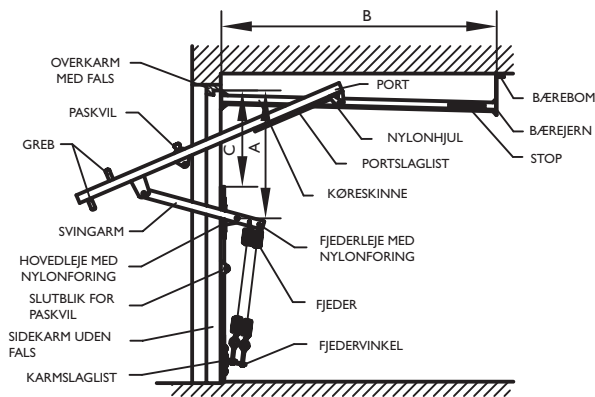
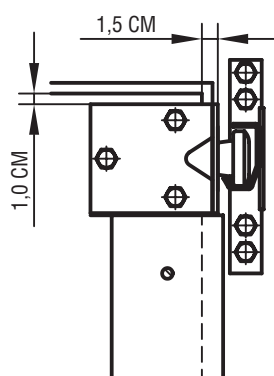

FIG. 1
FIG. 4
1. VINKLERNE MED NYLONHJUL MONTERES PÅ PORTEN. SE FIG. 4.
3. KARMLISTERNE FASTGØRES PÅ KARMENS INDVENDIGE SIDE. SE FIG. 1 - 2 & SKEMA.
4. HOVEDLEJET MONTERES PÅ KARM OG PORTVINKLEN MONTERES PÅ PORTEN. SE FIG. 1 - 2 & SKEMA. NB. UDMÅLINGEN SKAL VÆRE NØJAGTIG I BEGGE SIDER OG ARMENE SKAL STÅ LODRETTE.
5. KØRESKINNERNE SKRUES PÅ KARM. SE FIG. 4. HÆLDNING BAGUD CA. 8 CM BÆREJERNENE MONTERES PÅ KØRESKINNERNE OG STROPPERNE FASTGØRES TIL LOFT. SE FIG. 1.
9. PORTENS STOPKLODS PLACERES I SKINNE. SE FIG. 1. SÅLEDES AT SVINGARMENE ER LIDT FORBI LODRET STILLING. OM NØDVENDIGT MONTERES EN GUMMIDÆMPER PÅ KLODSEN.